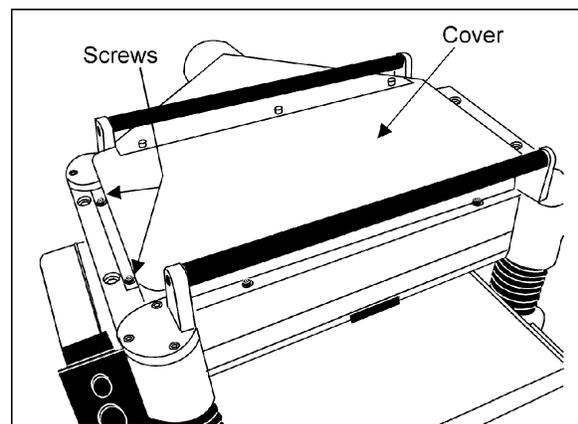

Figure 17
2. Remove the six screws and upper cover (Figure 17).
2. Remove six screws and upper cover (see Figure 17).